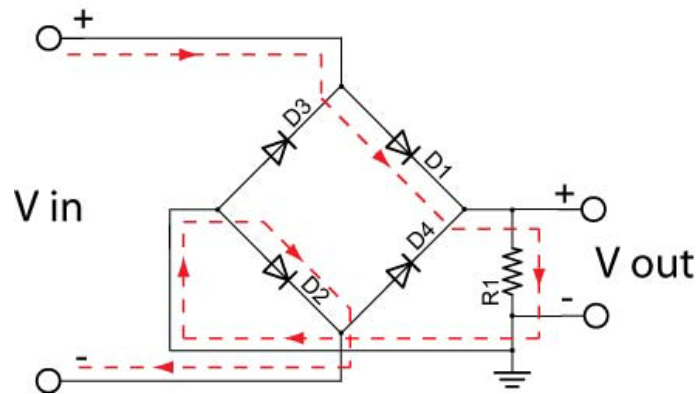

Figure 8, Conductive Diodes during the Positive Half-Cycle
- Review Figures 8 – 11. Notice that two diodes D1 and D2 are forward biased during the positive half-cycle of the input ac voltage and the other two diodes D3 and D4 are forward biased during the negative half-cycle of the input ac voltage. Thus the full-wave bridge rectifier produces dc output during both the positive and negative half-cycles of the ac input waveform.